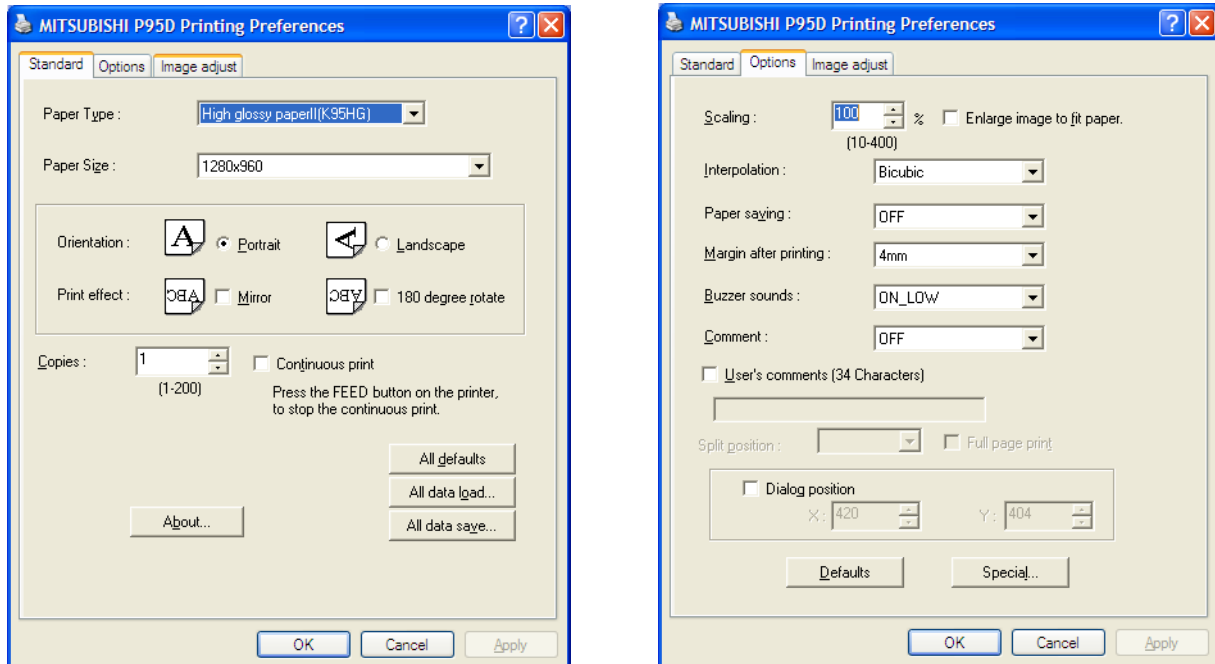

Figure 3-49 Standard & Options page
- 2.) Select the **STANDARD** page (see: Figure 3-49 below) and select:
- 3.) Select the **OPTIONS** page (see: Figure 3-49 below) and select: